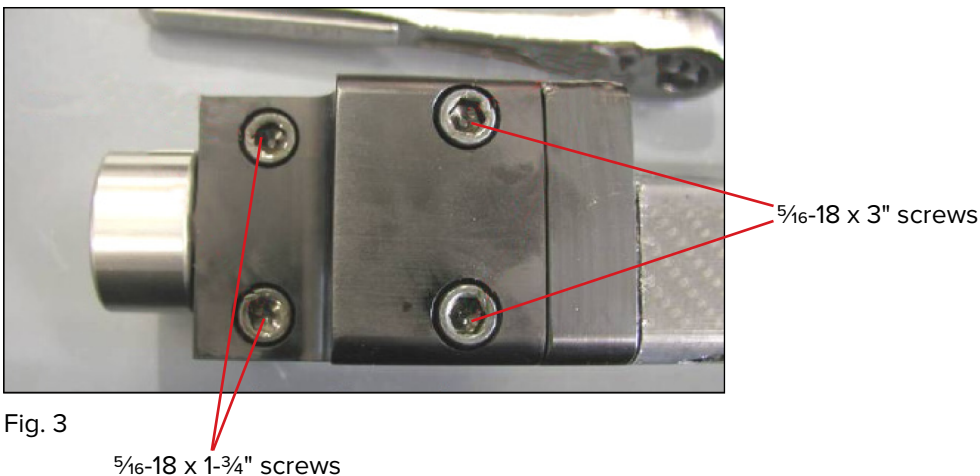
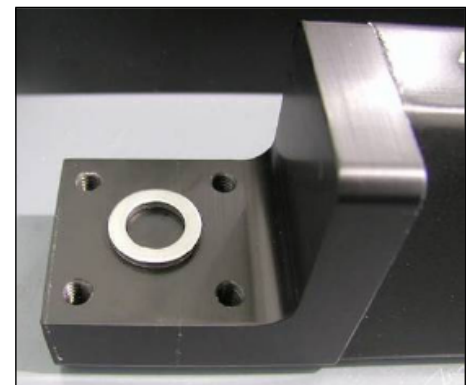

Fig. 3
Fig. 4
2. On each beam, attach the roller bearing assembly to the rear beam insert using (2)  $\frac{5}{16}$ -18 x 1- $\frac{3}{4}$ " screws on the lower surface and (2)  $\frac{5}{16}$ -18 x 3" screws on the upper surface (Fig. 3) also placing a 0.125 inch shim in between on both beams (Fig. 4).